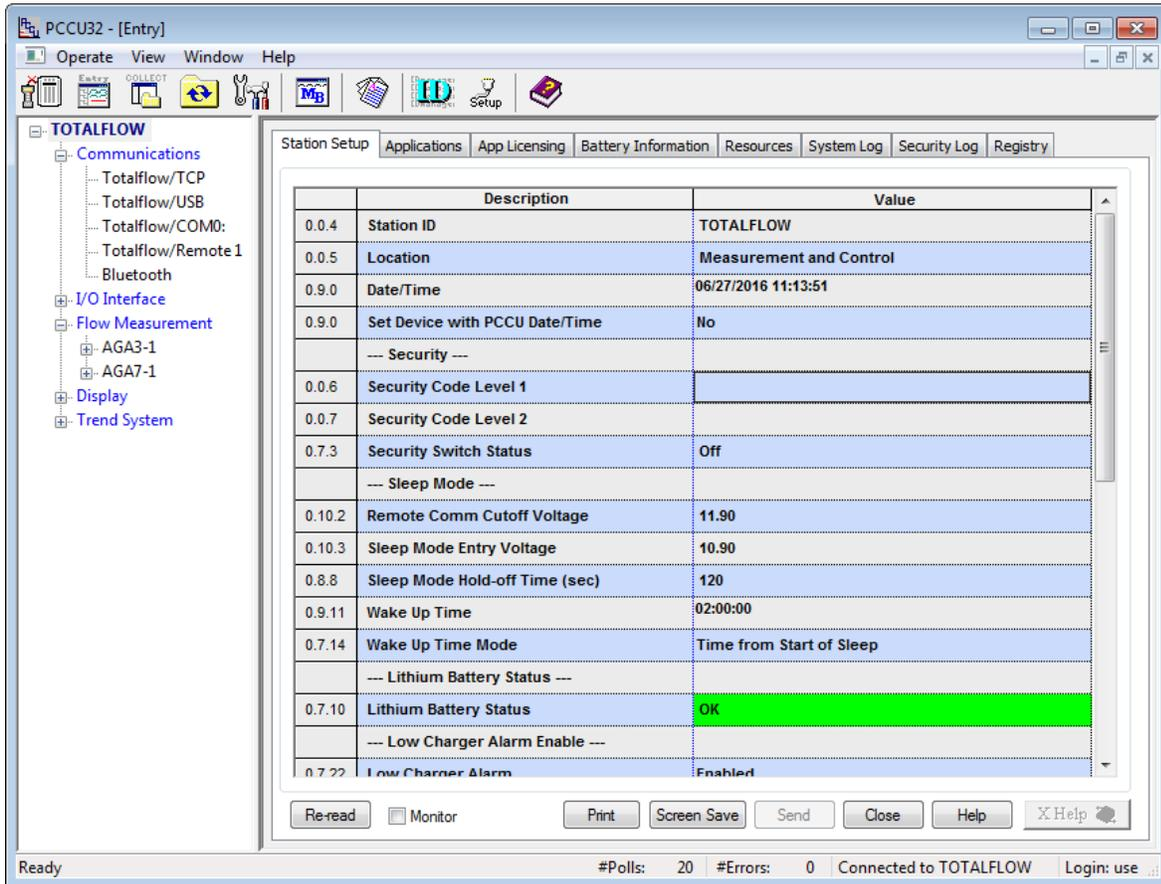

Figure 45: Setting station security codes
3. Click the top node of the navigation tree, the **Station ID** name, to see the **Station Setup** screen (Figure 45).
In the provided example (Figure 45), the access code for level 1 security is defined as **1234**. The access code for level 2 security is defined as **5678**. These codes will be referenced again for the example in section 6.3.1.2, *PCCU32 security* and section 6.3.2, *WinCCU32 security*.